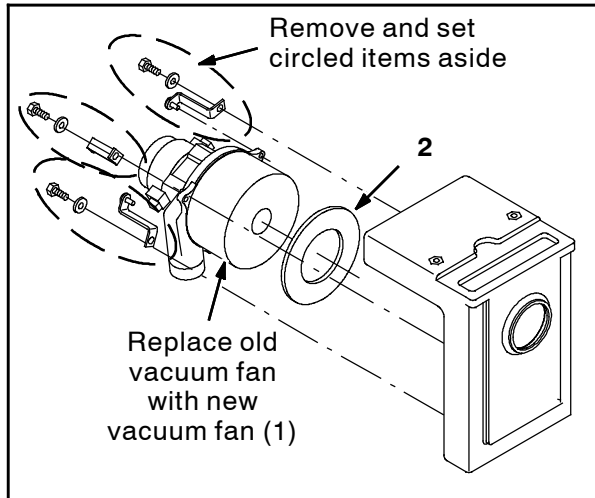

FIG. 1
1. Install the seal (2) onto the vacuum fan (1). (Fig. 1)
2. Use saved hardware to install the new vacuum fan (1) onto the machine. (Fig. 1)